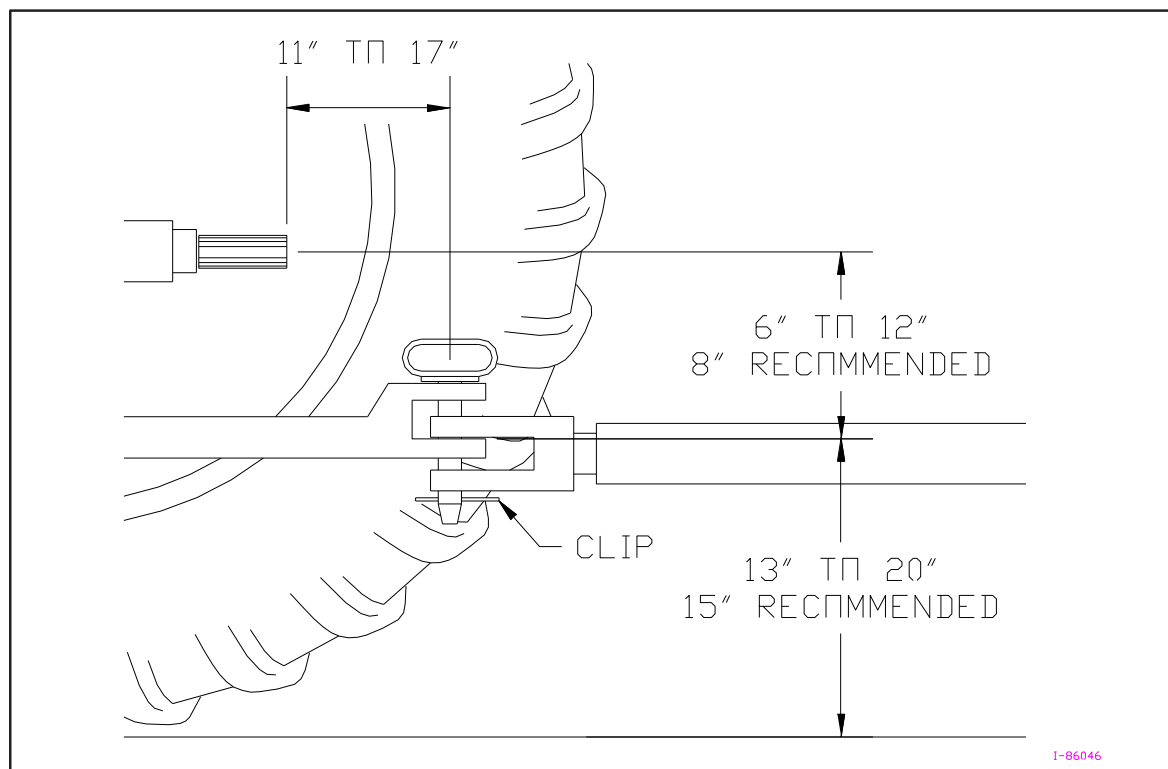

Figure 2A - Specifications for Connecting the Spreader/Tractor Hitch
The spreader hitch is designed to work with a standardized tractor hitch. To connect the spreader hitch to the tractor hitch, refer to Figure 2A and adhere to the following guidelines:
- Adjust the drawbar so that it is 13 to 20 inches above the ground as shown in Figure 2A.
- Extend or shorten the tractor hitch to obtain the horizontal distance from the end of the tractor power take-off (PTO) shaft to the center of the hitch pin hole (as shown in Figure 2A).
**WARNING:** Damage to the spreader or other vehicle, as well as injury to the operator, may occur if a properly-sized hitch pin is not installed as recommended. Note that the installation of the safety clip, as noted in Figure 2A, is also required for safe spreader operation.